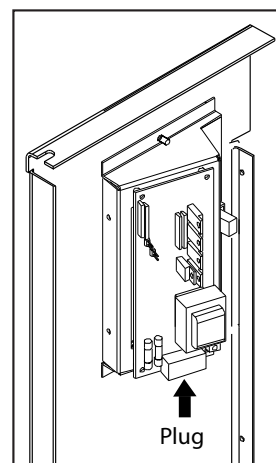

Figure 31: Control Panel Back.
After the surround has been assembled and is ready to be installed on the unit, plug the wiring harness into the control panel (see Figure 31).
4. Plug the wiring harness into the control panel (see Figure 31).